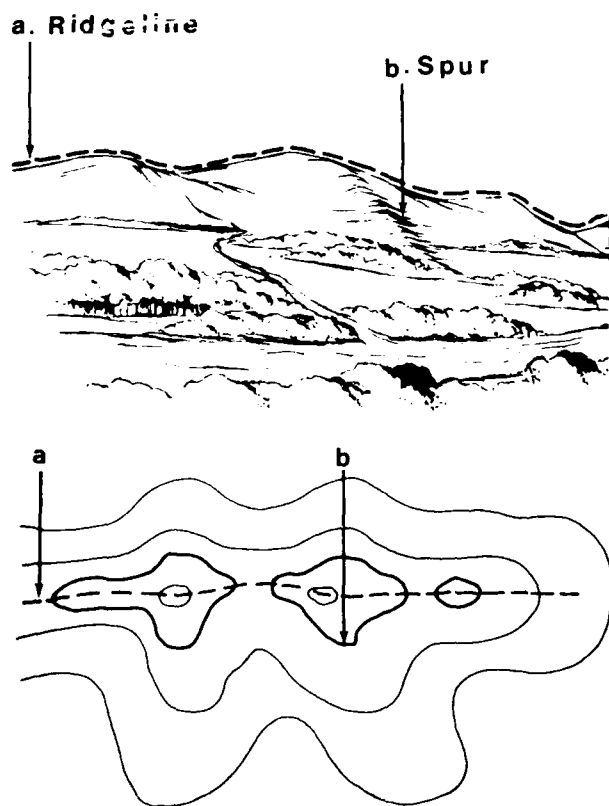

Figure 15-13.—(a) Ridge; (b) Spur.
its crest. (See fig. 15-13, views A, top and bottom.) The ridge is not simply a line of hills; all points of the ridge crest are appreciably higher than the ground on both sides of the ridge.
5. **SPUR:** A spur is usually a short, continuously sloping line of higher ground normally jutting out from the side of a ridge. (See fig. 15-13, views B, top and bottom.) A spur is often formed by two roughly parallel streams cutting draws down the side of a ridge.